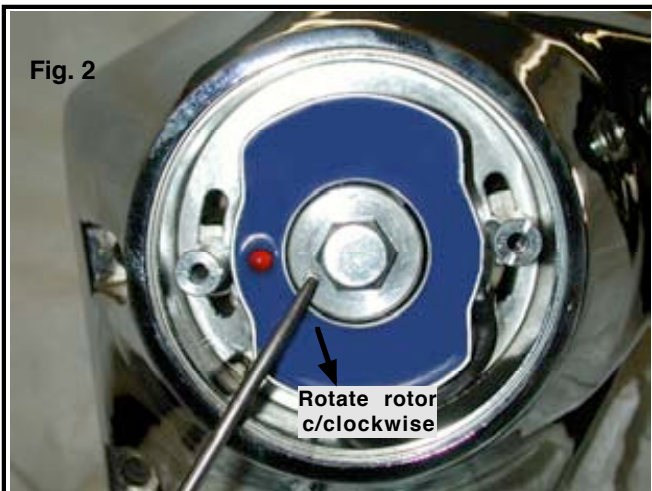

Fig. 2
5. After your coils are wired, reread paragraph 3. If your installation is correct, turn the ignition switch on. The red LED light will be on, which means the coil is powered. If the light is not on, rotate the ignition housing slightly until light flashes on. Using a right angle scribe, rotate the trigger rotor c/clockwise, to full advance position (see Fig 2)